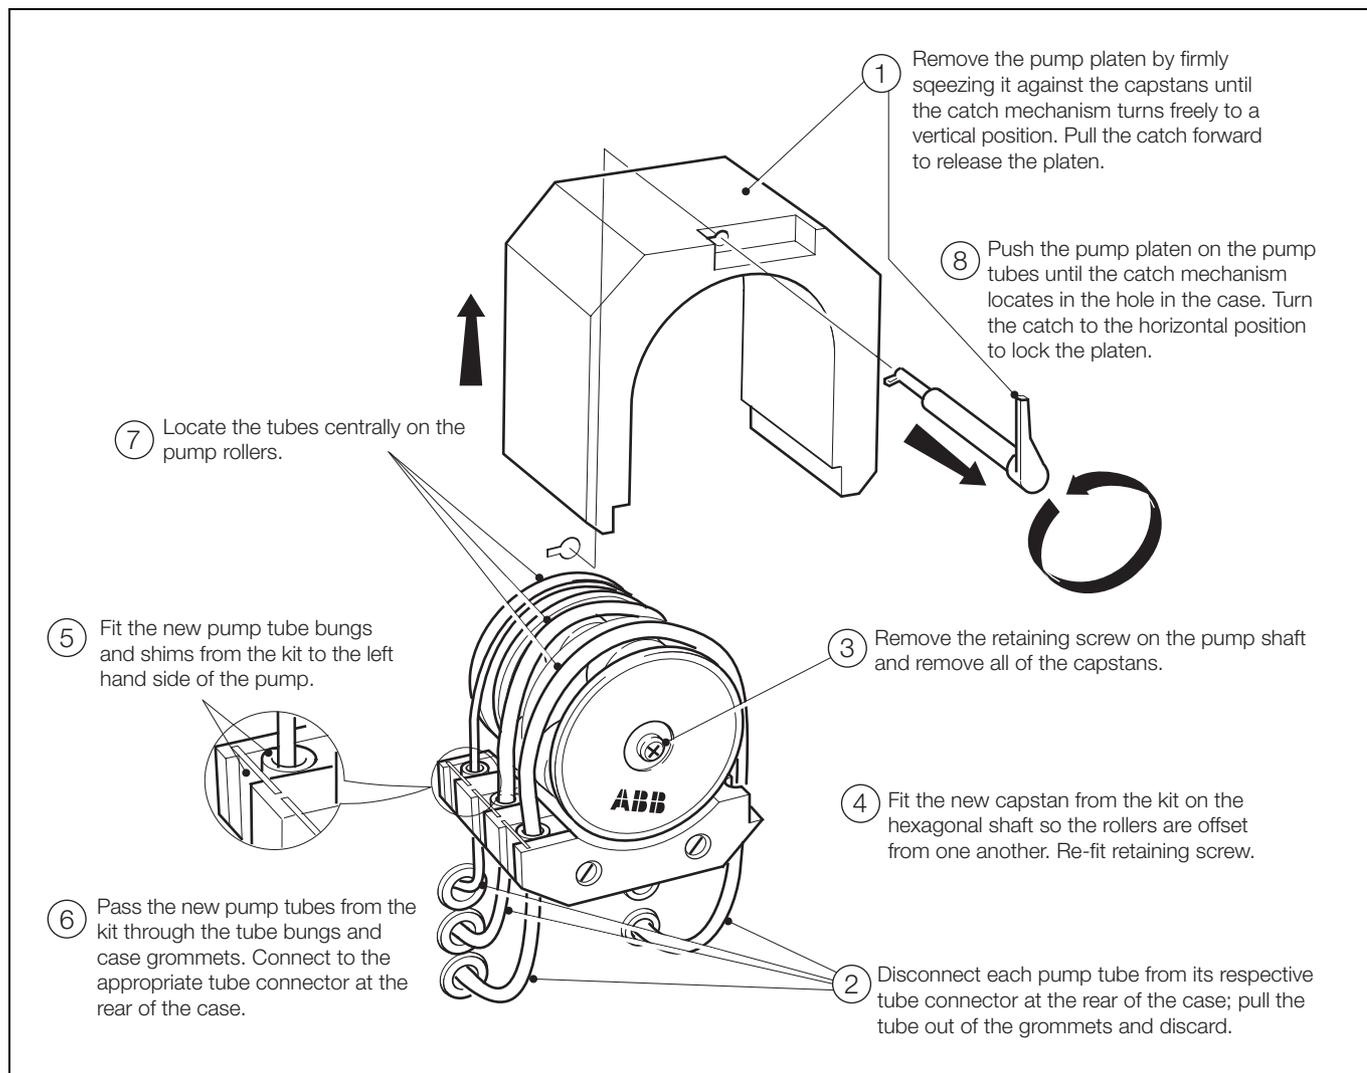

Fig. 8.1 Maintaining the Peristaltic Pump
8.2.6 Peristaltic Pump – Fig. 8.1
It is recommended that the pump tubing and pump capstans, supplied in the Consumable Spares Kit, are replaced after one year of operation. Carry out the procedure given in Fig. 8.1.